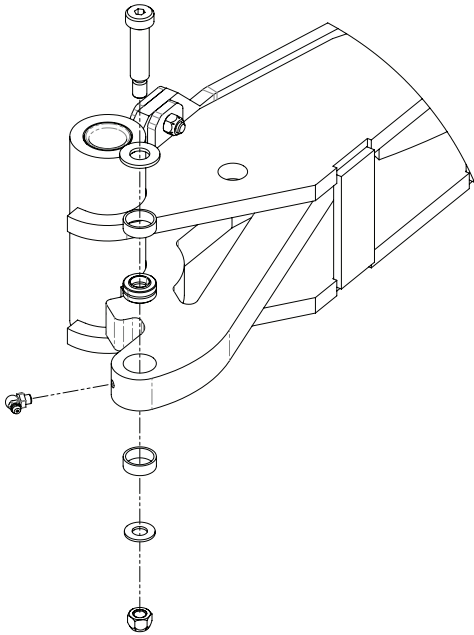

Figure 4
8. Once the rod-end cylinder pin holes in the finger weldments have been bored out to 7/8", the spacers and bearings can be installed. Installation of spacers may be easier if the spacers are placed in a freezer a few hours before installation is attempted. Use of a press is preferable, but installation can be completed using a bench vice or a large C clamp. See Figure 4.